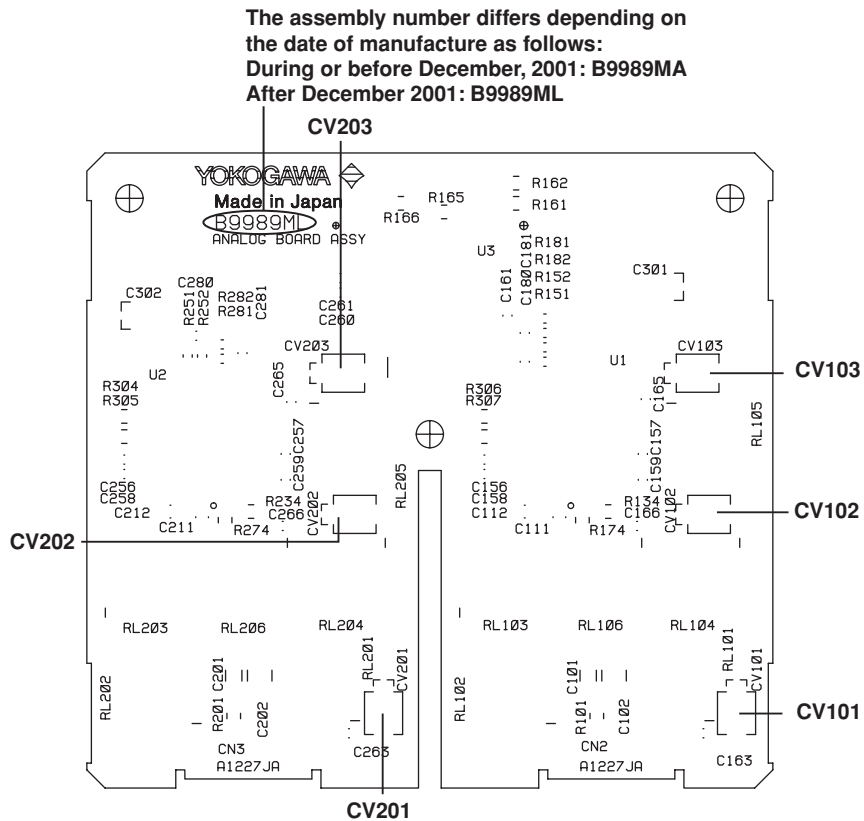
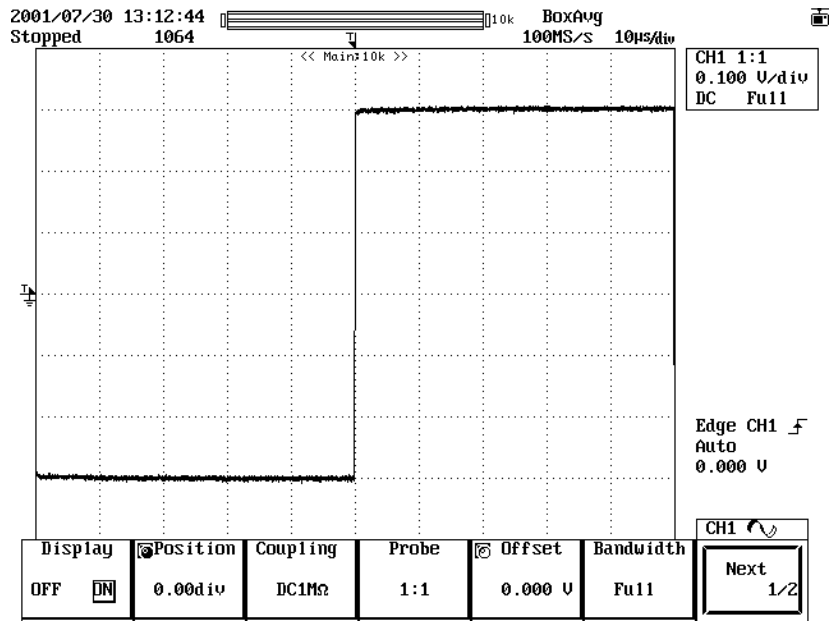

Figure 3.6 Adjustment Point Location Diagram
Figure 3.7 Observed Waveform
8. Adjust the variable capacitors CV101 and CV201, (refer to figure 3.6, "Adjustment Point Location Diagram") so that the top of the waveform becomes flat as shown in figure 3.7, "Observed Waveform." The flatness of the waveform must be fitted within ± 0.1 div.
10. Adjust the variable capacitors CV102 and CV202 (refer to figure 3.6, "Adjustment Point Location Diagram") so that the top of the waveform becomes flat as shown in figure 3.7, "Observed Waveform." The flatness of the waveform must be fitted within ± 0.1 div.
- Adjust the variable capacitors CV103 and CV203 (refer to figure 3.6, "Adjustment Point Location Diagram") so that the top of the waveform becomes flat as shown in figure 3.7, "Observed Waveform." The flatness of the waveform must be come within ± 0.1 div.